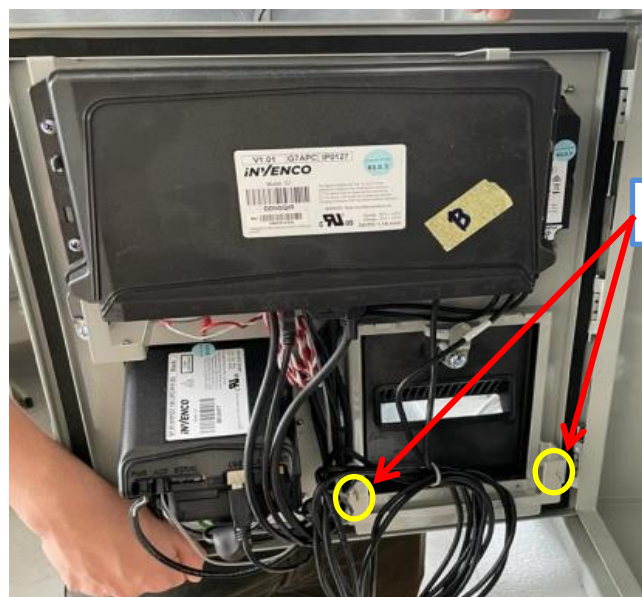

Fig 2.7 – Remove x2 M4 KEP Nut.
3. Remove the existing printer set (MZ0173) for temporary by untighten the x2 M3 Kept Nut (MN0039). This process will help installer to assemble the hinge pin (MP1040) with easier. (Fig 2.7)
- d) Assemble Printer set (MZ0173) that already remove on previous step (Fig 2.7). (Fig 2.8e)